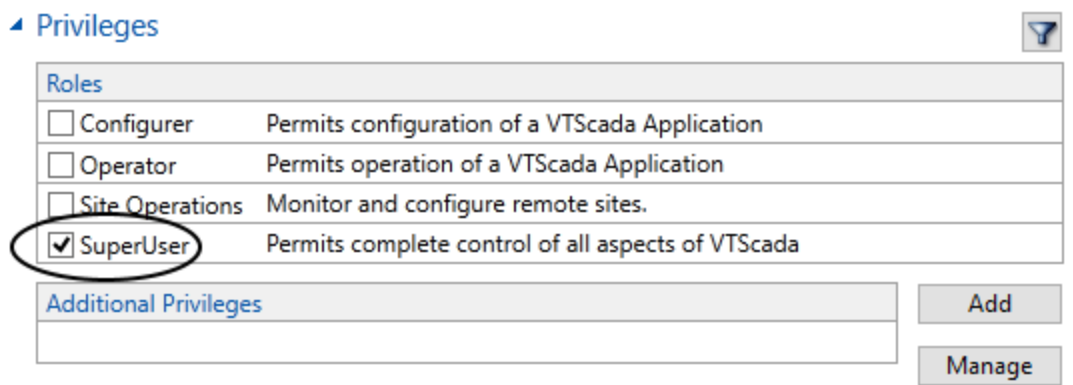

Figure 7-6 Choose a Role
3. In the list of Roles, select SuperUser. (Figure 7-6)